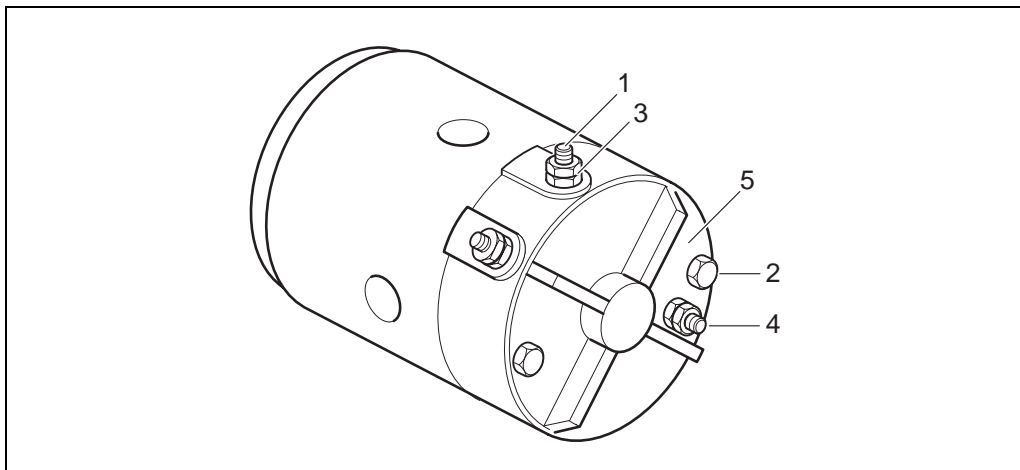

Figure 8.1
1. Disconnect the supply voltage from the motor by removing the cables from the motor terminals (pos. 1 figure 8.1).
2. Undo the through bolts from the rear of the motor (pos. 2 figure 8.1).
5. Release the terminal nuts (pos. 3 figure 8.1). In the case of an earth return motor the earth connection on the rear bracket of the motor must also be disconnected (pos. 4 figure 8.1).
6. Remove the rear bracket (pos. 5 figure 8.1). The terminals should stay in position, however, if they remain located in the rear casting then a slight tap should be enough to release them.
11. Re-torque the terminal nuts to 10-14 Nm (pos. 3 figure 8.1).